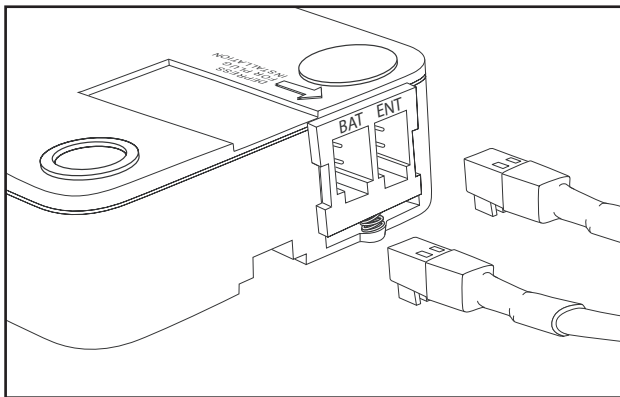

Figure 1
1. Connect power to the lock via the Logic Module or small/large battery box through the port on the lock marked BAT. The use of Duracell™ or Eveready™ batteries is recommended (see Figure 1).